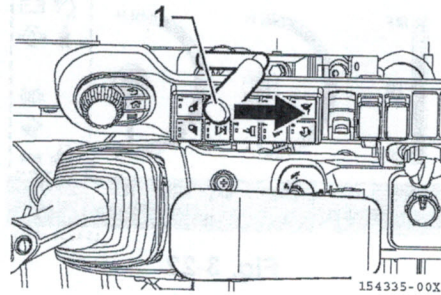

Fig. 3-23
3. Pull back the blade lever (Fig. 3-23, 1) to raise the blade.